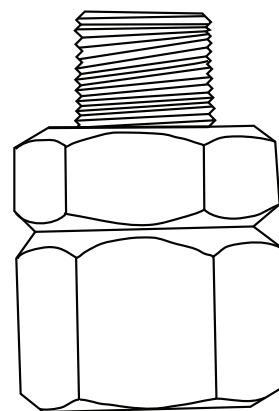

Fig. 10 Air shutter adjustment
Once Linear Outdoor Fire's lights, flame color adjustment can be made turning the air shutter nut under the burner pan. It is recommended that the nut be OPENED until the gas/air mixture makes a rushing sound (like a blow torch); then slowly CLOSE until the rushing sound diminishes. A desirable flame is bright yellow with little or no brown at the tips. Too yellow flame can create excessive sooting (See fig. 10).
3. Ensure all shut-off valves and key valve is fully open. See page 8; figure 10.